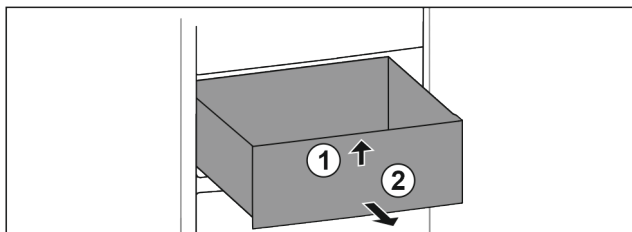

Fig. 57
- ▶ Lift up drawer at the front. Fig. 57 (1)
- ▶ Remove drawer to the front. Fig. 57 (2)